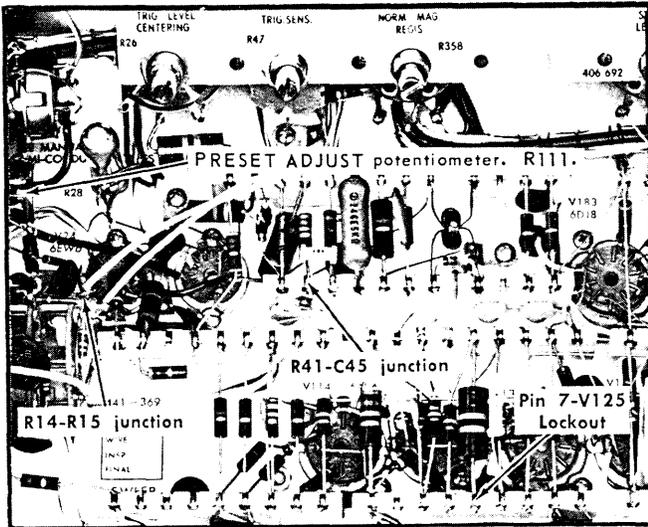

Fig. 6-15. Time Base A trigger adjustment and test points.
b. Connect a jumper lead between chassis ground and the junction of R14-R15. See Fig. 6-15.
c. Connect a 10X probe from the test oscilloscope to the junction of R41-C45. See Fig. 6-15.
c. Connect a voltmeter between the center tap of the PRESET ADJUST potentiometer (Fig. 6-15) and chassis ground.